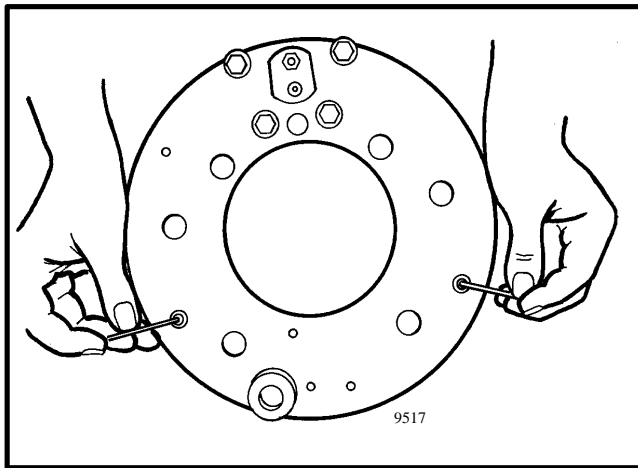
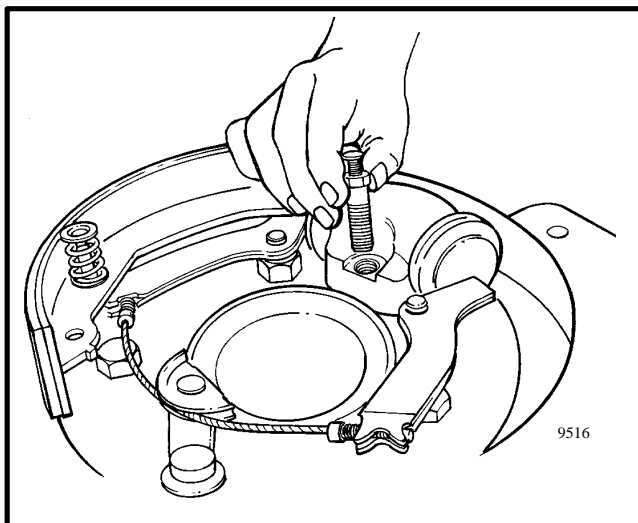

FIGURE 10. INSTALL THE PINS
FIGURE 11. INSTALL THE ANCHOR PINS
3. Put the pins that hold the brake shoes through the back plate. See FIGURE 10. Install the back plate on the axle housing. Tighten the two special capscrews for the parking brake levers to 245 N.m (180 lbf ft). Tighten the three capscrews that hold the back plate to the axle housing to 245 N.m (180 lbf ft). The special capscrew that is the anchor for the return springs must be tightened to 125 N.m (84 lbf ft). See FIGURE 11.